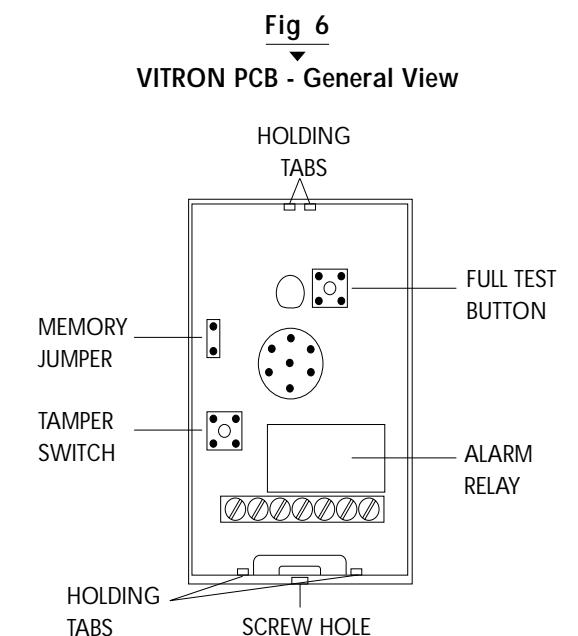

**Fig 5**
- Open the required mounting and cable holes (see Fig 5)